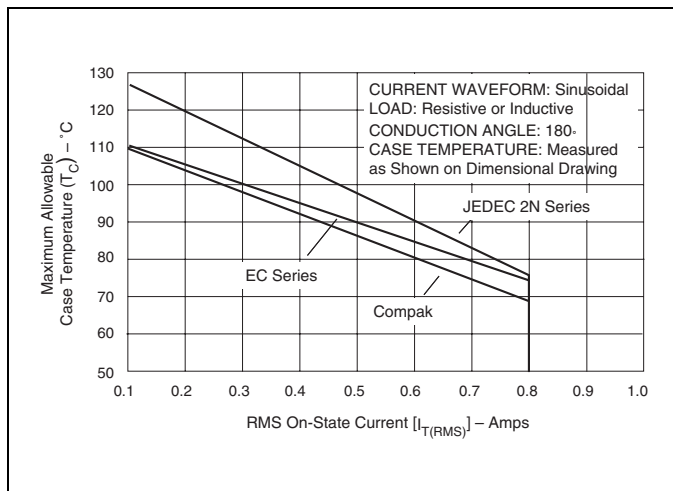
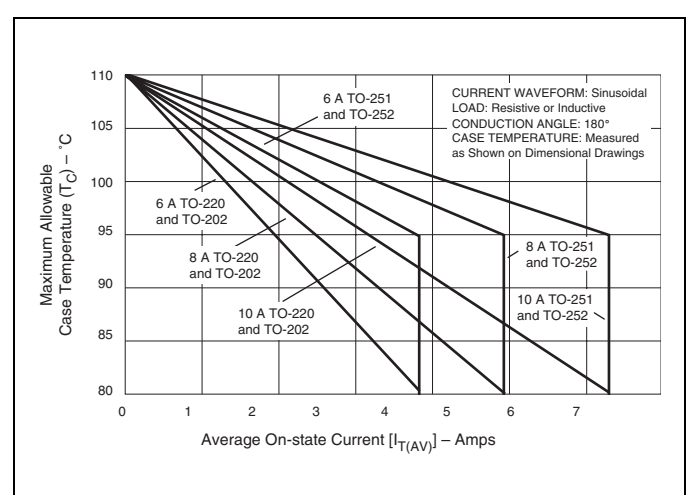
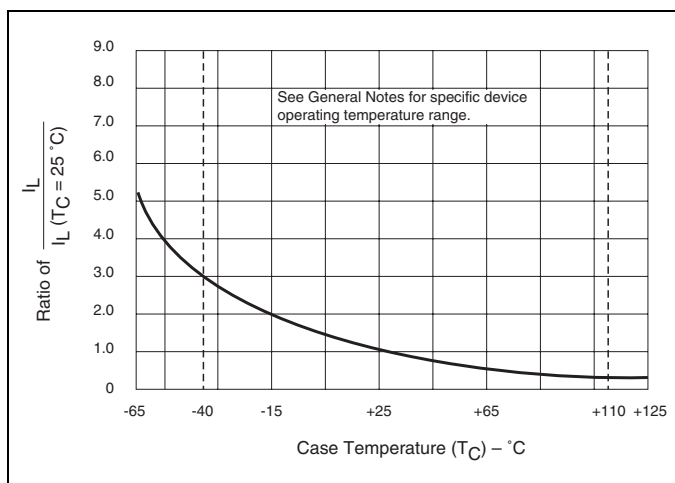

Figure E5.1 Maximum Allowable Case Temperature versus RMS On-state Current
Figure E5.9 Maximum Allowable Case Temperature versus Average On-state Current
Figure E5.18 Normalized DC Latching Current versus Case Temperature
- (1) See Figure E5.1 through Figure E5.9 for current ratings at specified operating temperatures.
- (13) See Figure E5.1 through Figure E5.9 for maximum allowable case temperature at maximum rated current.
- (14) $I_{GT} = 500 \mu\text{A}$ maximum at $T_C = -40^\circ\text{C}$ for T106 devices
- (15) $I_H = 10 \text{ mA}$ maximum at $T_C = -65^\circ\text{C}$ for 2N5064 Series and 2N6565 Series devices
- (16) $I_H = 6 \text{ mA}$ maximum at $T_C = -40^\circ\text{C}$ for T106 devices
- (17) Pulse Width $\leq 10 \mu\text{s}$
- (18) $I_{GT} = 350 \mu\text{A}$ maximum at $T_C = -65^\circ\text{C}$ for 2N5064 Series and 2N6565 Series devices
- (19) Latching current can be higher than 20 mA for higher I_{GT} types. Also, latching current can be much higher at -40°C . See Figure E5.18.
- (20) T_C or $T_L = T_J$ for test conditions in off state
- (21) I_{DRM} and $I_{RRM} = 50 \mu\text{A}$ for 2N5064 and 100 μA for 2N6565 at 125 °C
- (22) TO-92 devices specified at -65°C instead of -40°C
- (23) $T_C = 110^\circ\text{C}$